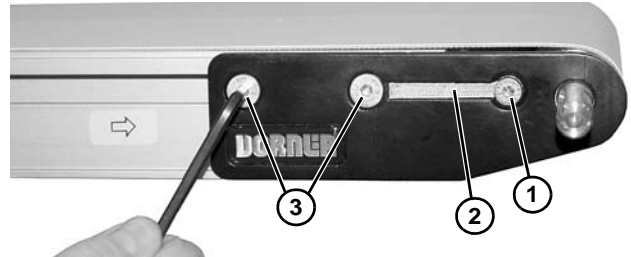

Figure 60
2. On one side of the conveyor, remove screw (**Figure 60, item 1**) and remove dust cover (**Figure 60, item 2**), if installed.
3. Remove two fastening screws (**Figure 60, item 3**).